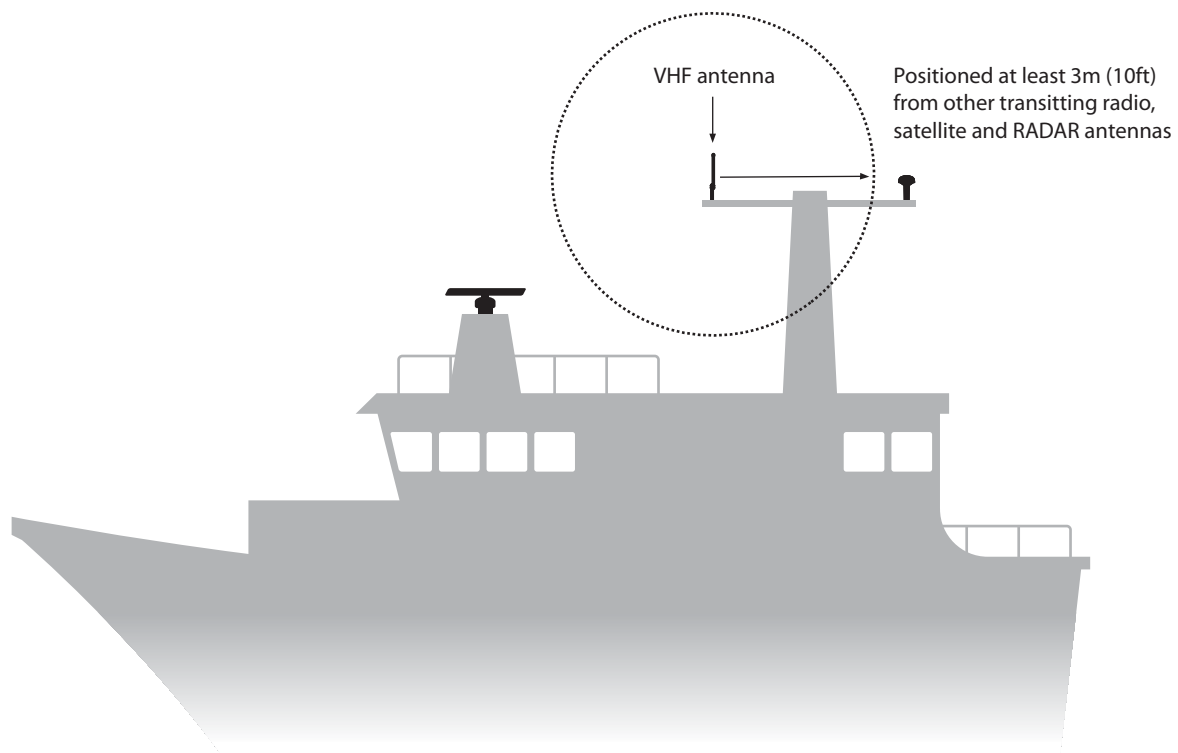

Figure 44 VHF antenna installation
- Ideally the AIS VHF antenna should be mounted directly above or below the ship's primary VHF radiotelephone antenna, with no horizontal separation and with a minimum of 2m vertical separation. If it is located on the same horizontal level as other antennas, the distance apart should be at least 10m. Refer to Figure 44 for further guidance.